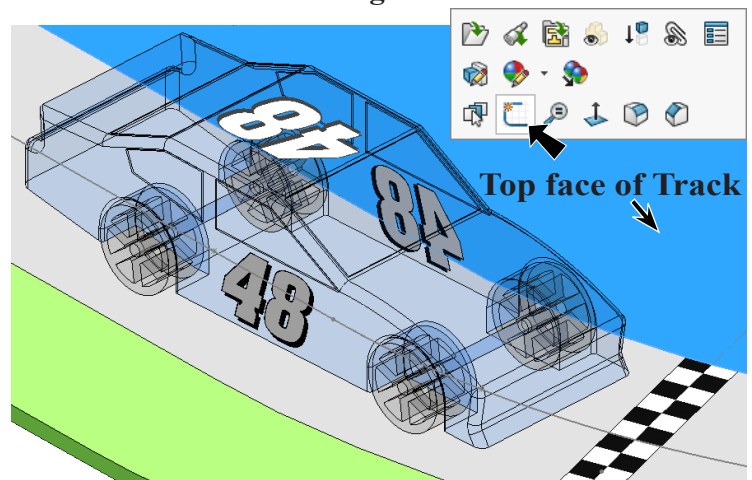

Fig. 4
Step 4. Click the **top face of Track** and click **Sketch**  on the context toolbar, **Fig. 4**.